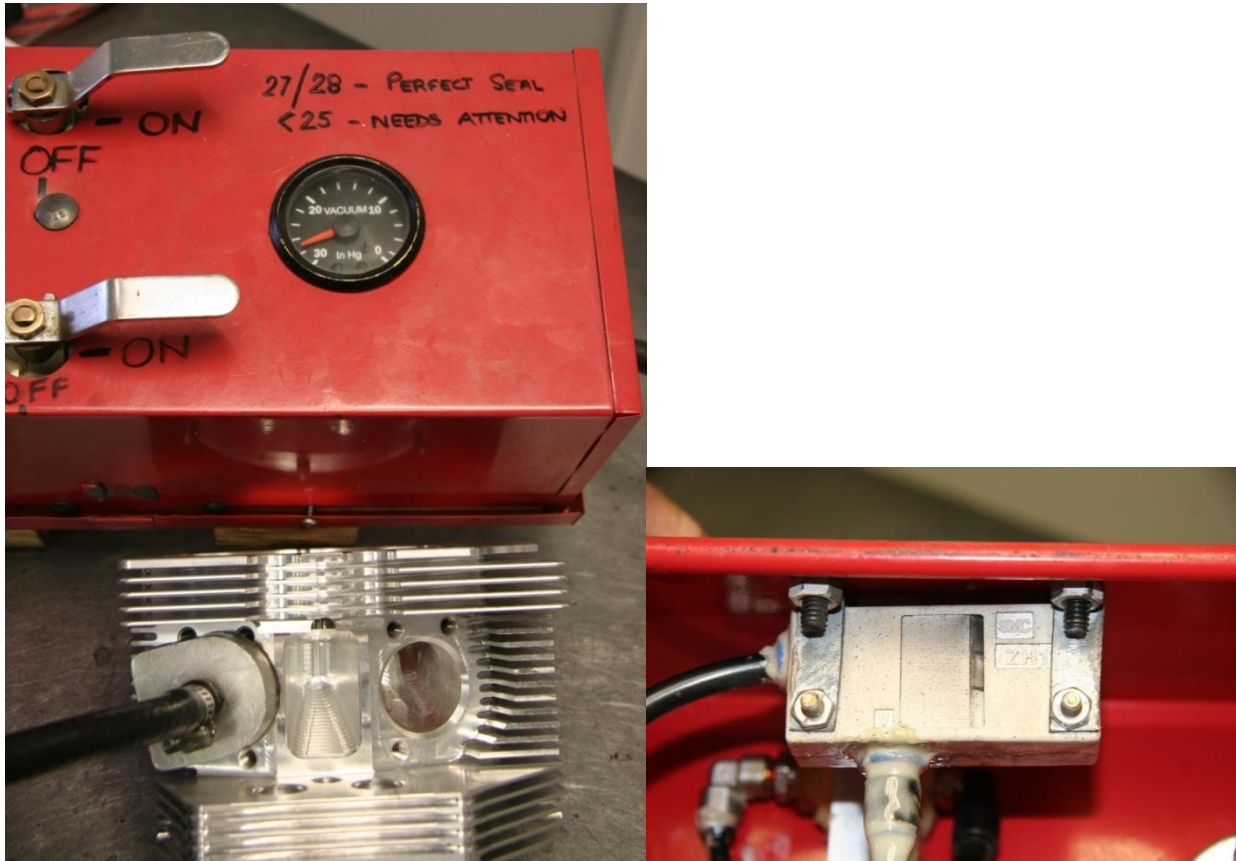

Figure 96 – Vacuum Test Rig
- After cutting the seal of the valves must be checked using a vacuum tester. This can be done without fitting the valve springs as the vacuum which is applied in this test holds the valve against the seat. Figure 96 shows a vacuum test rig. This system connects to the workshop's compressed air supply and uses a venturi effect within the silver box (right) to generate a partial vacuum. A fitting must be made to connect the vacuum tube to the cylinder head – we use a layer of insertion rubber to seal between the metal fitting and the cylinder head. Once operating the vacuum is assessed via a gauge. If the valve achieves 25inhg or less then the valve must be cut against the seat to improve the seal. Again, remember that the seats and valves must be cut as little as possible.